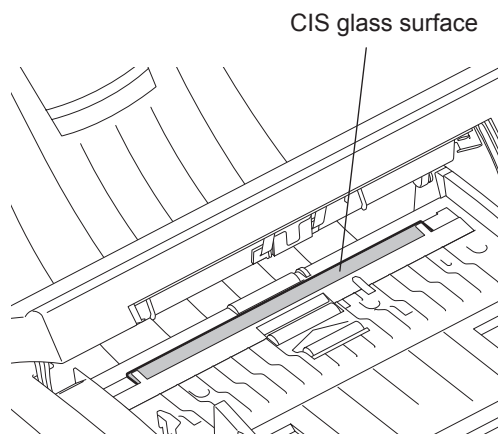

Fig. 10-2
- 1) CIS glass surface (P.10-4 "Fig. 10-2")